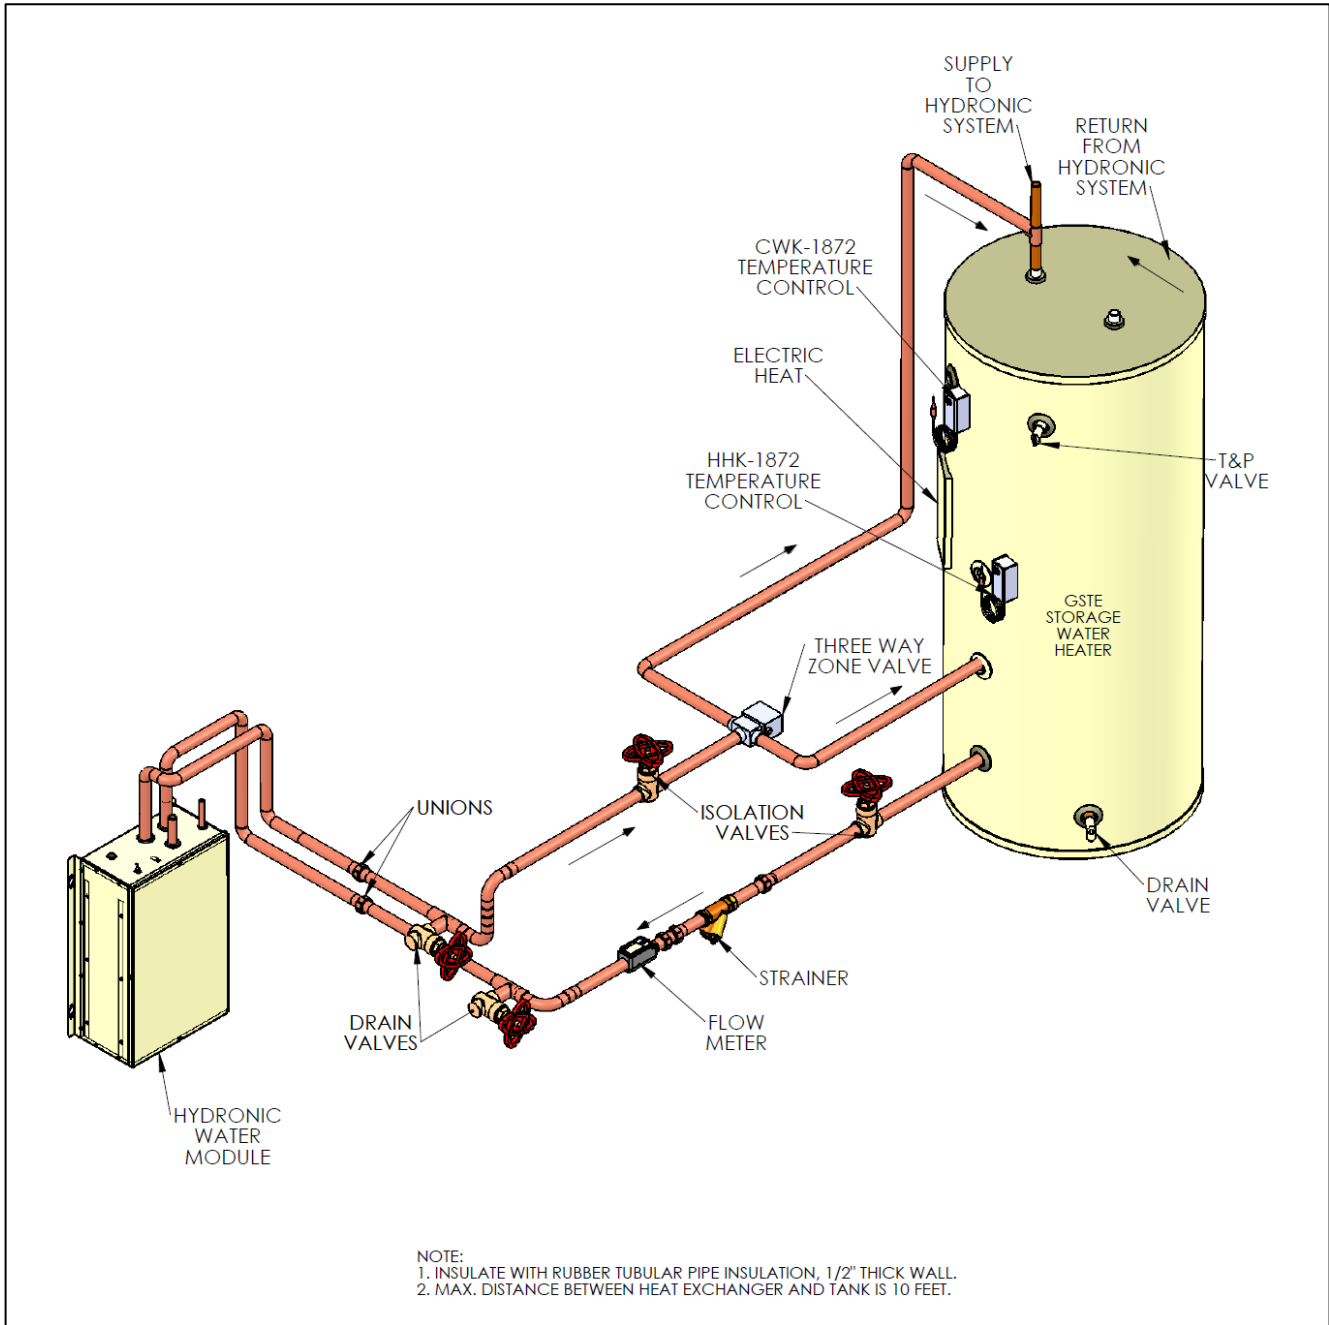

Figure 13c. Typical SC(A) Primary Hydronic Circuit Plumbing
A typical primary hydronic plumbing circuit for an SC(A) system is illustrated in Figure 13c.
The heat exchanger must be isolated from the water system when the system undergoes a “superchlorination” or “shock chlorination” flushing process. Closing the isolation valves as shown in Figure 13c prior to initiating the system flushing process isolates the heat exchanger. The water entering the heat exchanger after the system flushing must not exceed a chlorine level consistent with the local municipal water purification standards. Failure to isolate the heat exchanger will damage the heat exchanger causing system failure. Allowing highly chlorinated water to enter the heat exchanger will void the EarthLinked® Limited Warranty.